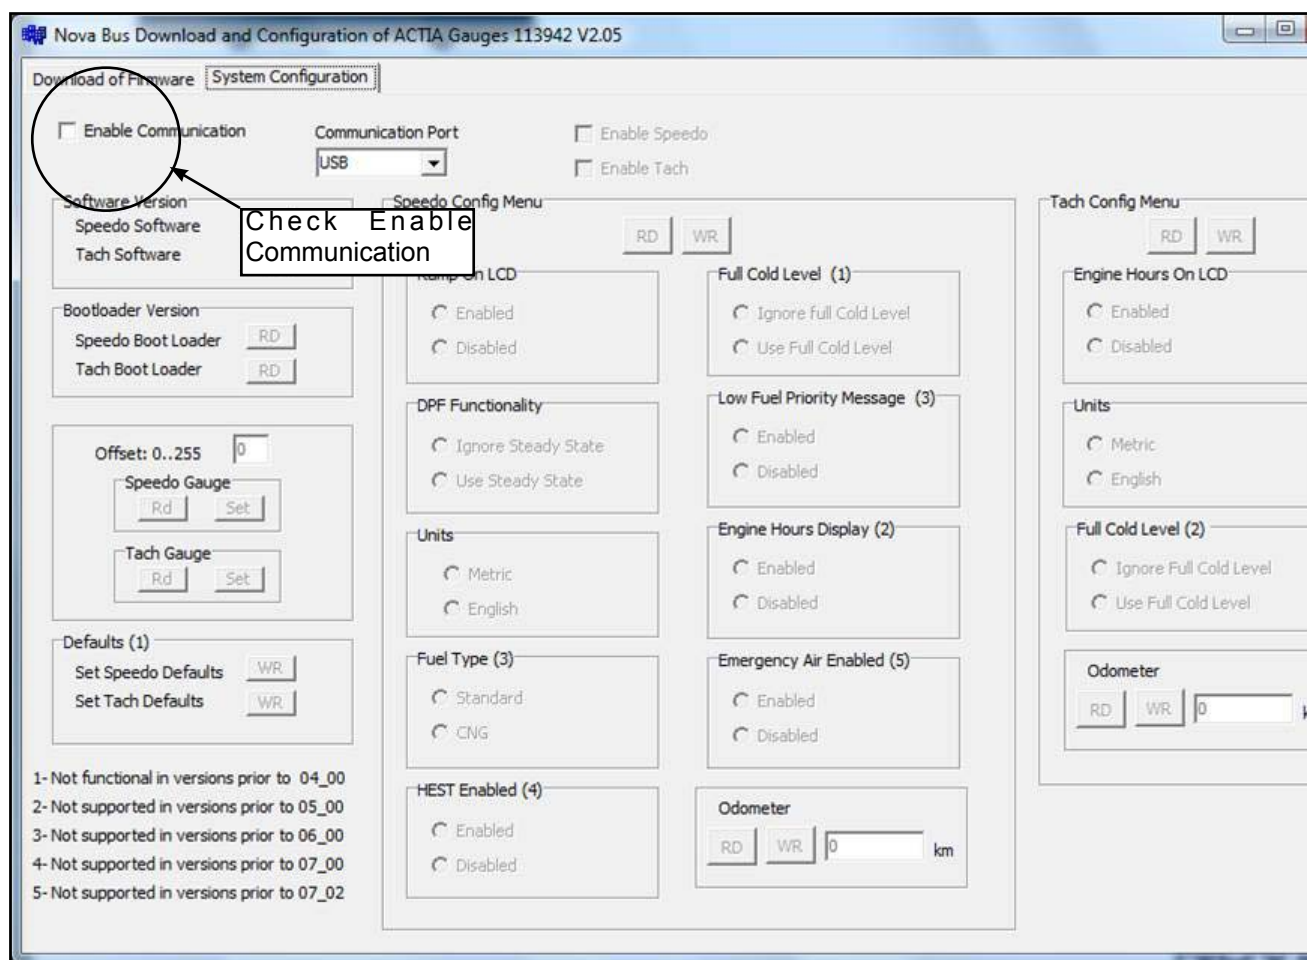

Figure 17 - Enable Communication
3.1.12 Check the Enable Communication box (see Figure 17).